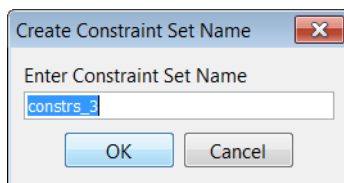

Figure 3-29: Create Constraint Set Name Dialog Box
- To create a constraint set, click the drop-down menu next to the Specify Constraint Set field, and select **Create Constraint Set**. In the Create Constraint Set Name dialog box (Figure 3-29), enter a name for the constraint set, and click **OK**.